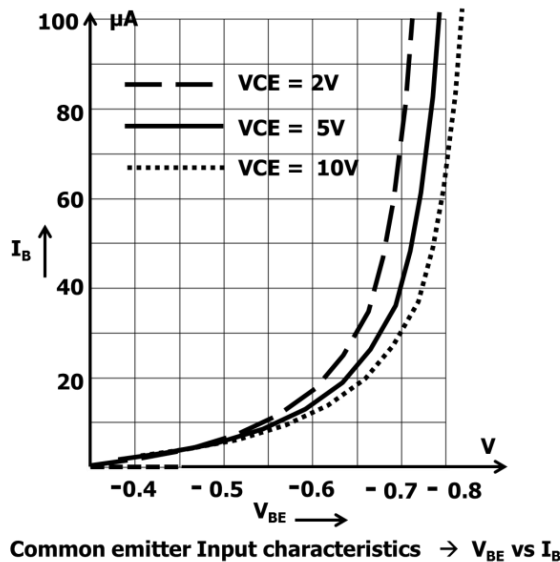

Fig 3.18
- Input characteristics (fig 3.18) is a plot of input voltage (V_{BE}) in X axis and Input current (I_B) in Y axis, for various constant values of collector-emitter voltages. It is also similar to a forward-biased diode characteristic